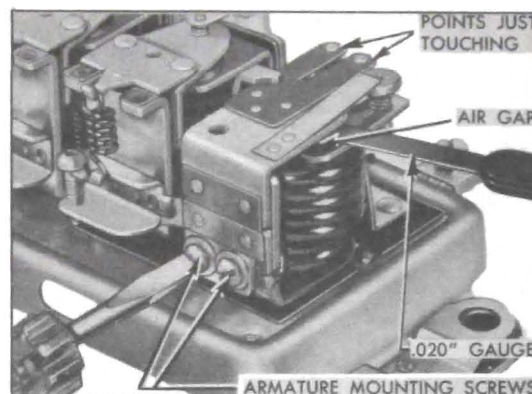

Figure 10-22—Adjustment of Cutout Relay Air Gap
1. Place finger on armature directly above core and move armature down until contact points just close. If both sets of points do not close simultaneously, bend spring fingers so that they do. *With points just closed*, measure air gap between armature and center of core; gap should be .020", measured with feeler gauge. Adjust air gap, if necessary, by loosening armature mounting screws and raising or lowering armature as required. Tighten screws securely and recheck air gap. See figure 10-22.